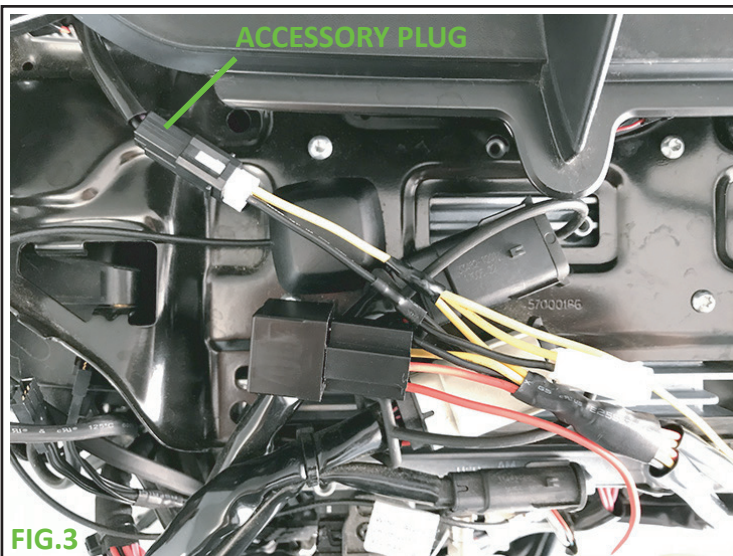

FIG.3
- 10) Place the supplied wire harness on the front of the motor cycle and plug it into the accessory plug. (Fig.3)